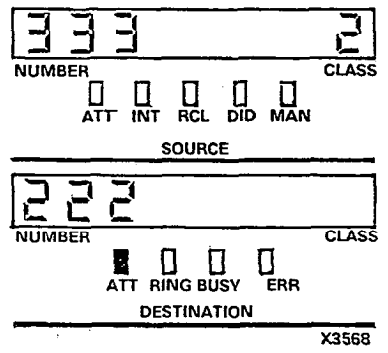

Figure 314-2
- * SOURCE display shows number of check extension 1 and digit 2 (Don't Answer code) (Figure 314-2)
- * SOURCE display shows number of check extension 1 and 'Don't Answer code '2' (Figure 314-2)
- * DESTINATION display shows number of check extension 2 (Figure 314-2)